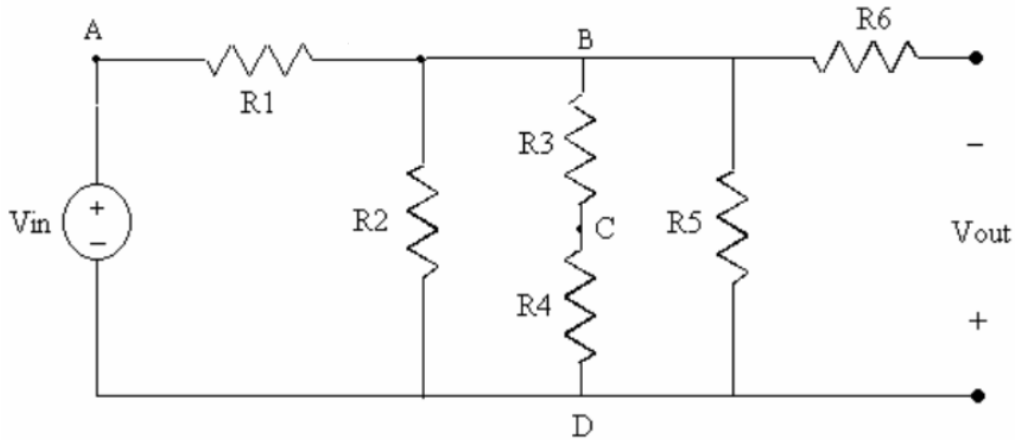

Figure 1. Circuit for AC voltage measurements.
- G. At this point, a stable sinusoidal waveform should be displayed on the oscilloscope. Verify that your waveform is correct by pressing the “Voltage” button on the oscilloscope and using the resulting menu to display the peak-to-peak, RMS, and average voltages. Load the waveform displayed on the oscilloscope to the computer by logging into the computer and selecting *Programs...HP Bench Link Suite...HP Benchlink Scope* from the Start menu. Select *Image...New* from the File menu to capture the scope image. **(1) Add your names, a title, and exercise number to the plot using the text tool in Benchlink and print the plot including the specified measurements. Always add your names, a title, and exercise number to all plots generated throughout the semester.**
- A. Change the frequency of the sine wave to 200 kHz. **(2) Determine the time base required for 1 horizontal division to equal 1/frequency. Change the time base on the scope to the calculated Time/Div and describe the voltage trace displayed on the scope.**
- B. Verify that your calculation is correct by pressing the “Cursors” button on the oscilloscope and positioning the two time (t1,t2) cursors in a manner to determine the period of the waveform. **(3) Print the waveform displayed on the oscilloscope including the period as determined by the cursor.** The voltage (v1,v2) cursors can be adjusted in a similar fashion to determine amplitude values.
- D. Adjust the DC offset of the function generator such that the waveform is centered at -1 V from ground. Change the coupling of CH 1 from dc to ac in the CH 1 menu. **(4) Describe the differences in the voltage trace when viewed on dc coupling and on ac coupling.**
4. Return CH 1 to dc couple and remove the dc offset. Disconnect the BNC-to-BNC from the waveform generator and replace it with a BNC-to-Clip connector. Change the frequency back to 500Hz and adjust the sec/div accordingly. Build the circuit shown in Figure 1 using the waveform generator as the source, given $R1=R5=24k\Omega$, $R2=12k\Omega$, $R3=11k\Omega$, $R4=13k\Omega$, $R6=5.1k\Omega$ (same as Lab #1).
5. Using two BNC-to-Clip connectors, measure the input voltage on CH 1 and the open circuit output voltage on CH 2. Select both channels to view the waveforms simultaneously. Both oscilloscope channels should typically be set to the same V/div for comparison purposes. Always select the V/div and Time/div such that both waveforms are clearly displayed. **(5) Analytically determine the peak-to-peak voltage of the input voltage and the peak-to-peak voltage of the output voltage and compare to the measured values.**
3. Compare the results to those obtained in Lab #1, discussing AC, DC, and linear circuit properties. How are the peak AC values at each node in Figure 1 related to the DC values obtained in Lab #1?
4. Give the current through each resistor in Figure 1 as a sinusoidal expression using the measured voltages.